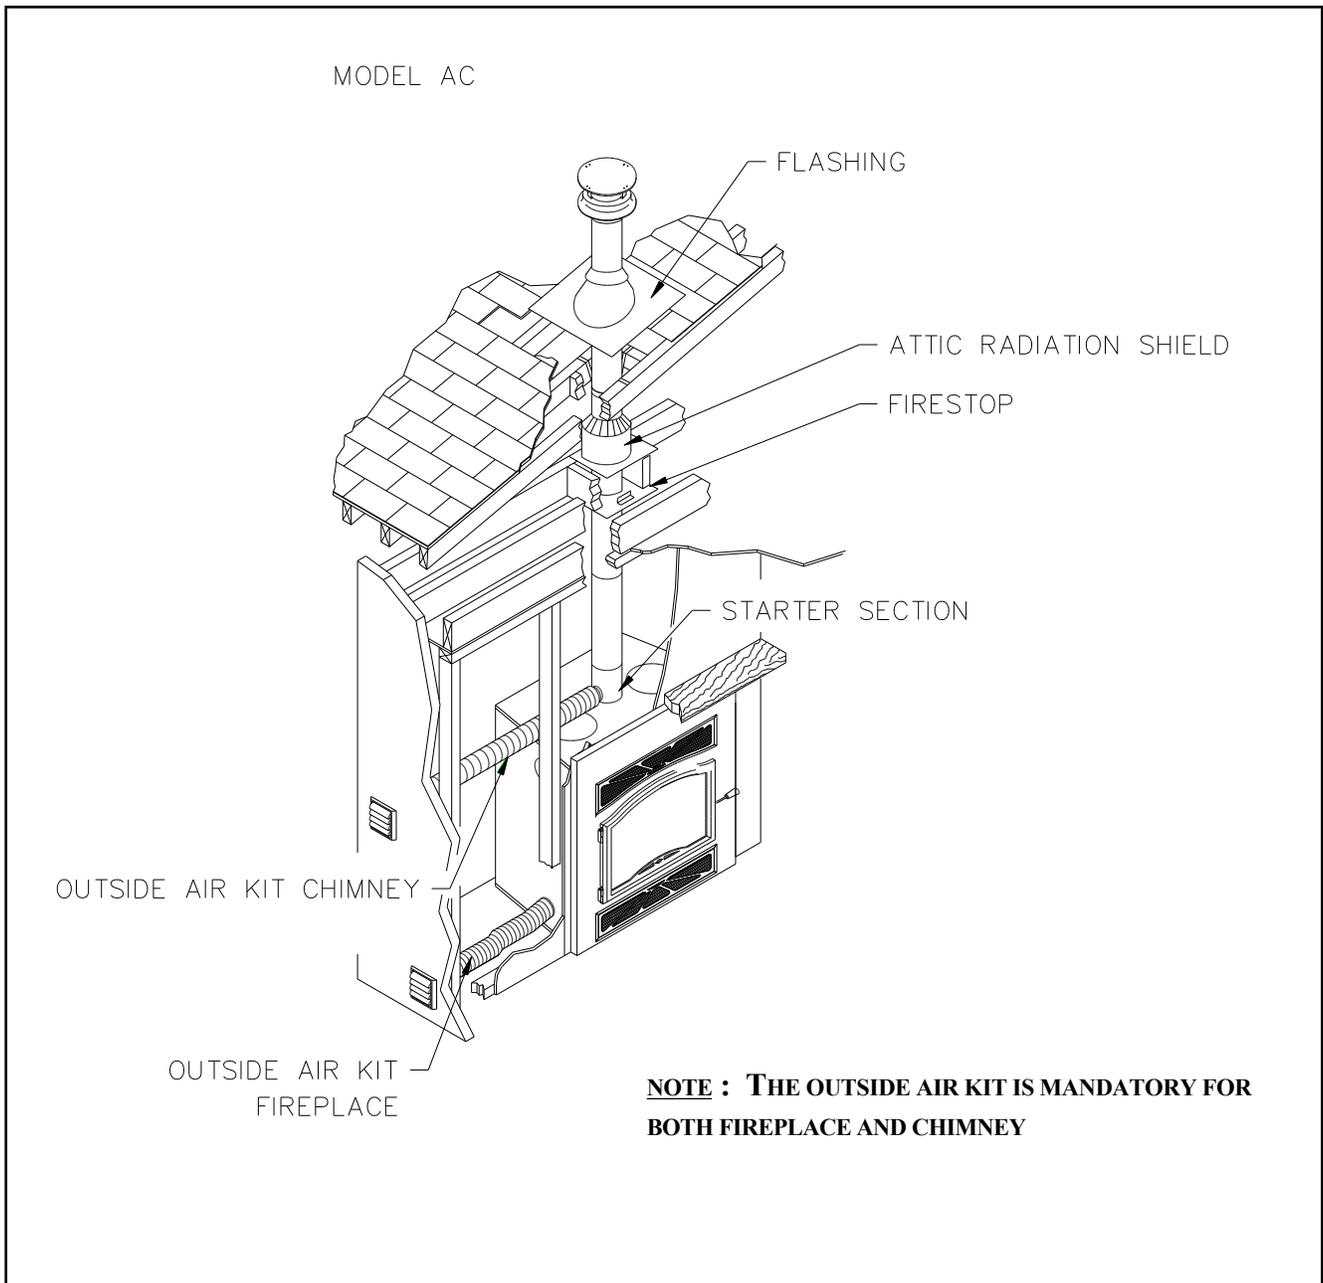

Figure 28
3. For Secure Temp^{ASHT+} / Nova Temp^{HT6103+} and Secure Temp^{S2100+} / Nova Temp^{HT6000+} chimneys, place the first chimney length on the fireplace. To lock it in place, turn $\frac{1}{2}$ of a turn clockwise. With the ACBI chimney, you must use a starter section before installing the first chimney length (figure 28). Continue installing chimney lengths making sure to lock each length in place.